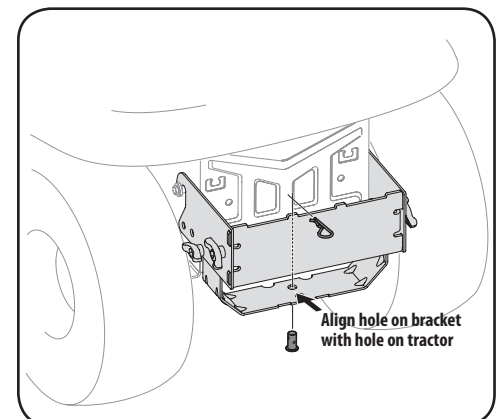

Figure 4-6
2. Install the clevis pin (711-0309A) from hardware pack 689-00328A into the tractor's hitch and secure with a hairpin clip (714-0117). See Figure 4-6.